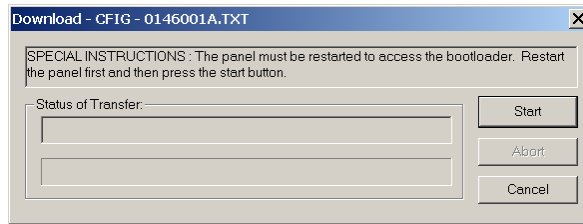

Figure 15-19. Download Dialog for Bootloader Files
5. Press the Warm Start button, located on the CPU Motherboard, and then immediately click the Start button in the Download dialog shown in Figure 15-19. The panel LCD displays messages describing the progress of the download operation.